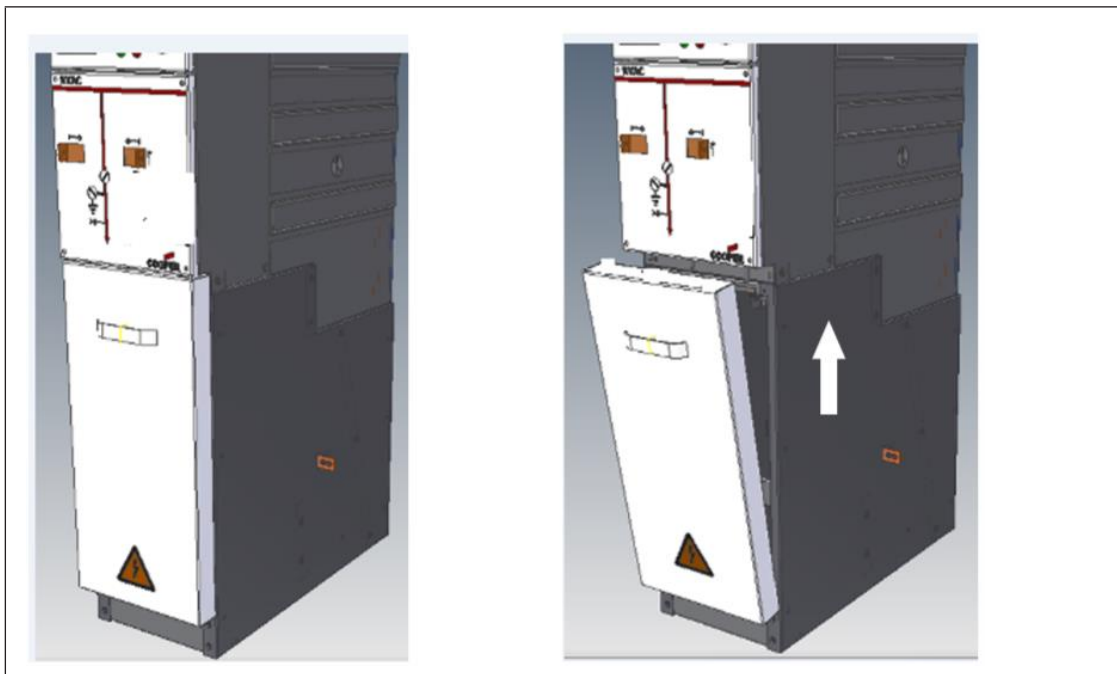

Figure 14.2 Removal of the cable compartment door
- Remove the cable compartment door, and open the cable compartment (see Figure 14.2);